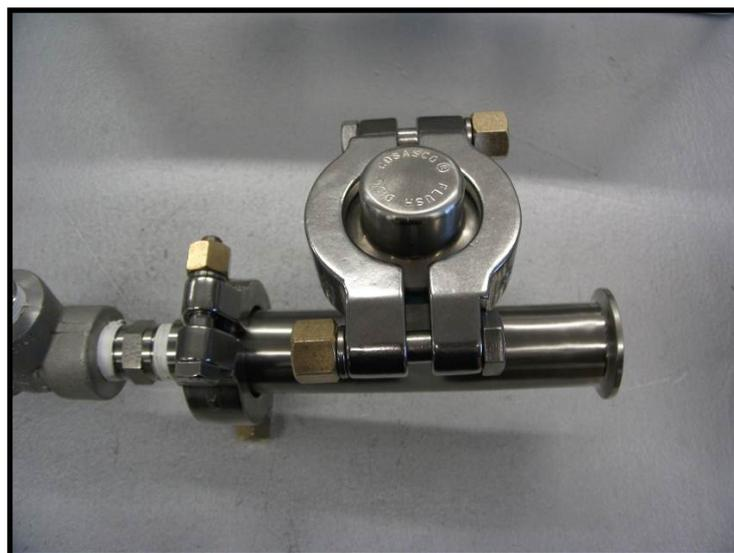

Fig 1. – Correctly installed clamp
2. The clamps must be installed correctly to avoid buckling of the nut and bolt arrangements and to ensure correct sealing between the assemblies. To install correctly ensure that the bolts are tightened equally and parallel to each other, ensuring the gap between each clamp is the same on either side of the T piece. See *Fig 1 below*.